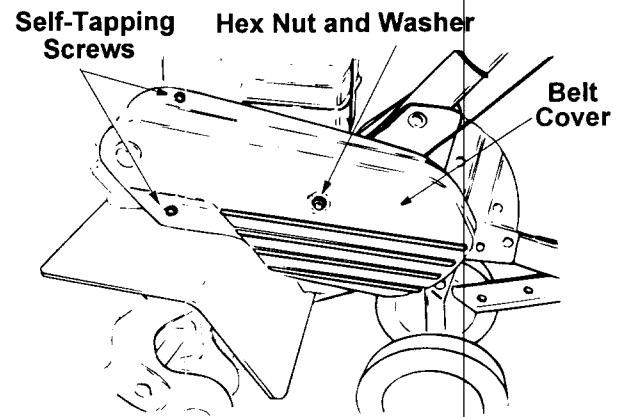

Figure 18
1. Remove the belt cover from the left side of the tiller by removing two self-tapping screws and flat washers from the front of belt cover. (See Figure 18.)